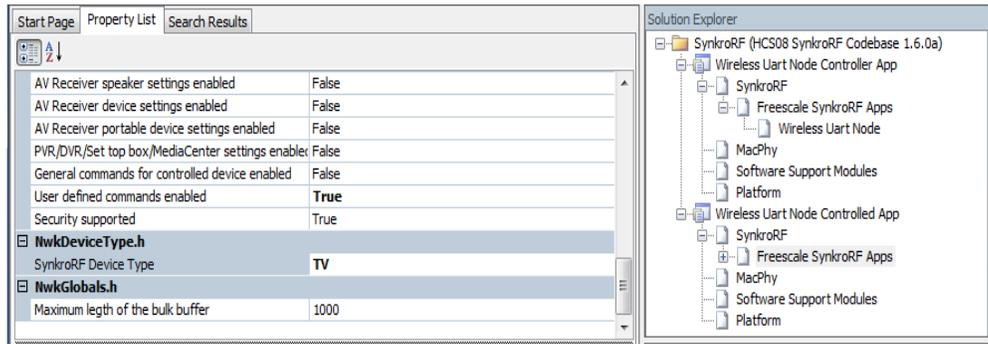

Figure 4-2. Configure Wireless Uart Node as TV
7. Configure Wireless UART Node as “TV” SynkroRF Device Type, as shown in Figure 4-2